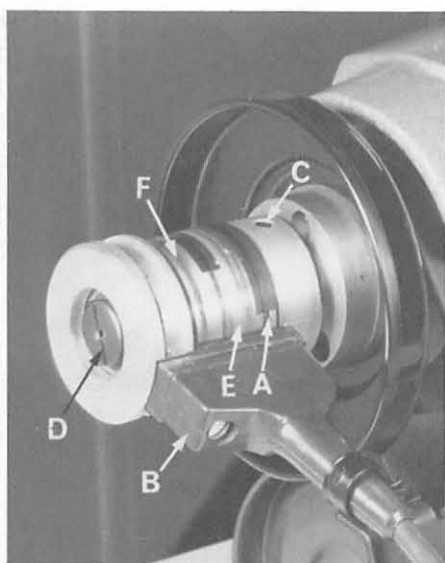

Fig. 34
- (b) At this time the brass contact of the left band (A, Fig. 34) should be flush with the front edge of the brush holder (B). To make this adjustment position needle bar and deflector plate as described in step (a), then loosen set screws (C) in synchronizer and move as required.
- (c) The needle positioner should position needle at bottom of stroke. If not, with power off rotate handwheel until it is at bottom. Then loosen screw (D) at end of synchronizer and rotate third band from left (E) in operating direction until its brush is in the middle of the black plastic band.
- (d) The needle positioner should position needle thread take-up at top of its stroke or $1/8$ inch from the top of its up stroke. If not, with power off rotate handwheel in operating direction until it is at the top of its stroke. Then loosen screw at end of synchronizer and rotate fourth band from left (F) until its brush is in the middle of the black plastic band. Turn on power and check the up and down positions of the needle bar.